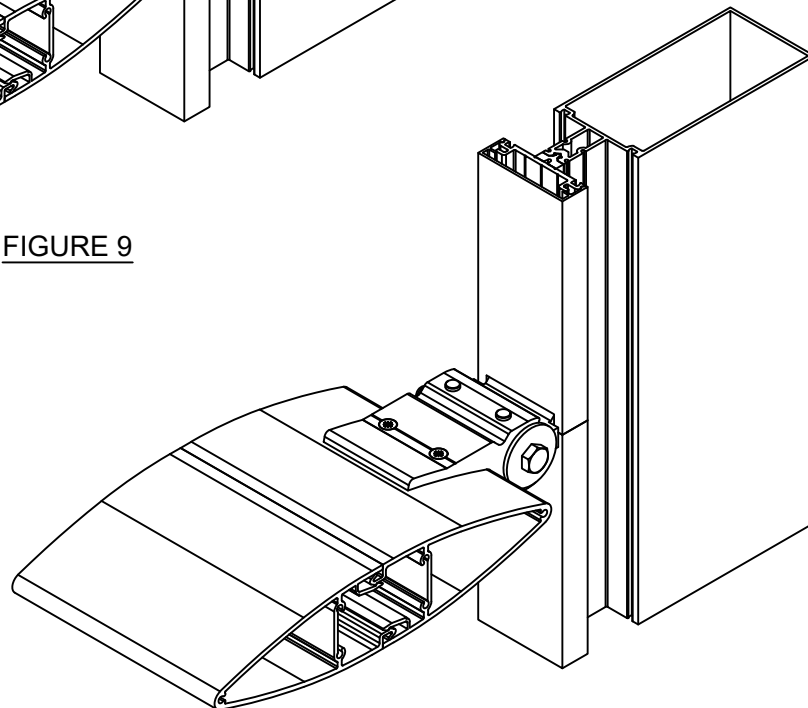
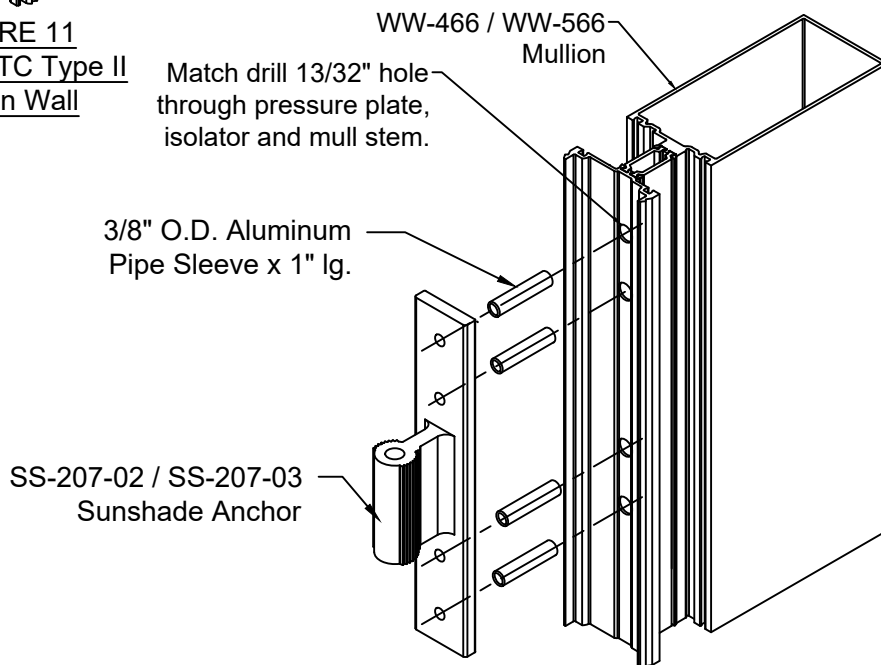

FIGURE 11
FIGURE 12
- 11) Final assembly of Solar Eclipse II is shown in FIGURE 11 below.
- 1) After glass has been installed into the Reliance & Reliance-TC Type II curtain walls, install the vertical pressure plates. Locate the SS-207-01 sunshade anchor at the face of the WW-284 pressure plate and match drill through pressure plate, GP-197 (GP-198) dual-durometer isolator and front wall of the mullion stem using a .281 drill bit. SEE FIGURE 10. NOTE: Anchor is handed so must be installed based on project specified blade angle. See page 25 for installation information for blade angles. SEE FIGURE 11 and FIGURE 12 page 10
- 2) Reliance-TC Type I has similar installation. The face of the WW-566 (WW-466) mullion is integral, so you will only match drill through the face portion of the extrusion. SS-207-02 or SS-207-03 anchor will be used on the Reliance-TC Type I due to offset stem and based on blade angle. The sunshade anchor may be pre-installed onto the Reliance-TC Type I, where these anchors must be field installed on all other curtain wall products. SEE FIGURE 12 page 10